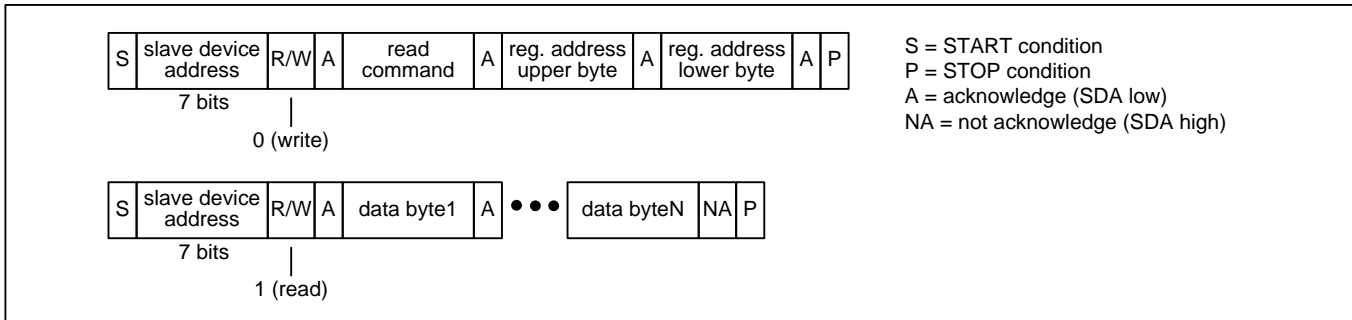
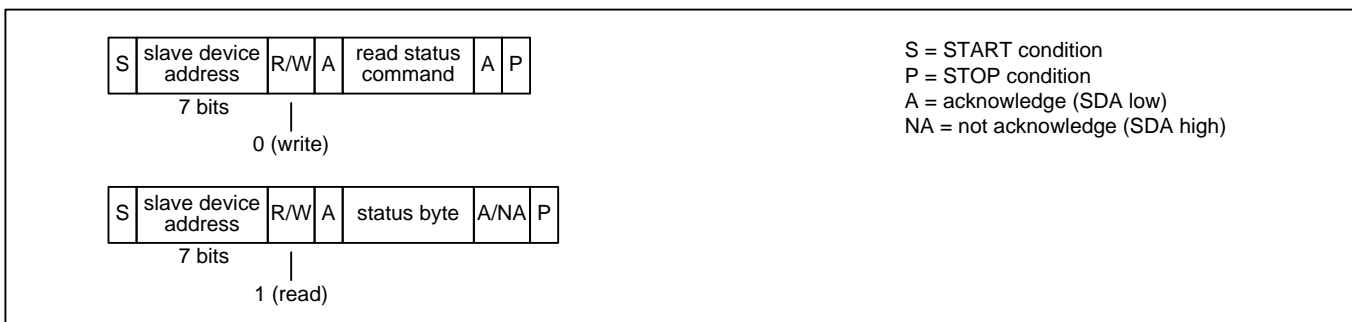

Figure 7 – I2C Read Transaction Functional Timing
Figure 10 – I2C EEPROM Read Status Transaction Functional Timing
**Read Transactions.** The device registers are accessible when  $EESEL=0$ . The internal EEPROM memory is accessible when  $EESEL=1$ . The bus master first does an I2C write to the device. In this transaction three bytes are written: the SPI Read command (see Table 3), the upper byte of the register address, and the lower byte of the register address. The bus master then does an I2C read. During each acknowledge (A) bit the device fetches data from the read address and then increments the read address. The device then transmits the data to the bus master during the next 8 SCL cycles. The bus master terminates the read with a not-acknowledge (NA) followed by a STOP condition (P). See Figure 7. Note: If the I2C write is separated in time from the I2C read by other I2C transactions then the device only outputs the data value from the first address and repeats that same data value after each acknowledge (A) generated by the bus master.
**EEPROM Read Status.** The bus master first does an I2C write to transmit the SPI Read Status command (see Table 3) to the device. The bus master then does an I2C read to get the status byte. In this byte, the least significant bit is set to 1 if the transfer is still in progress and 0 if the transfer has completed. See Figure 10.
Note: In Figure 7 through Figure 10, a STOP condition (P) immediately followed by a START condition (S) can be replaced by a repeated START condition (Sr) as described in the I2C specification.